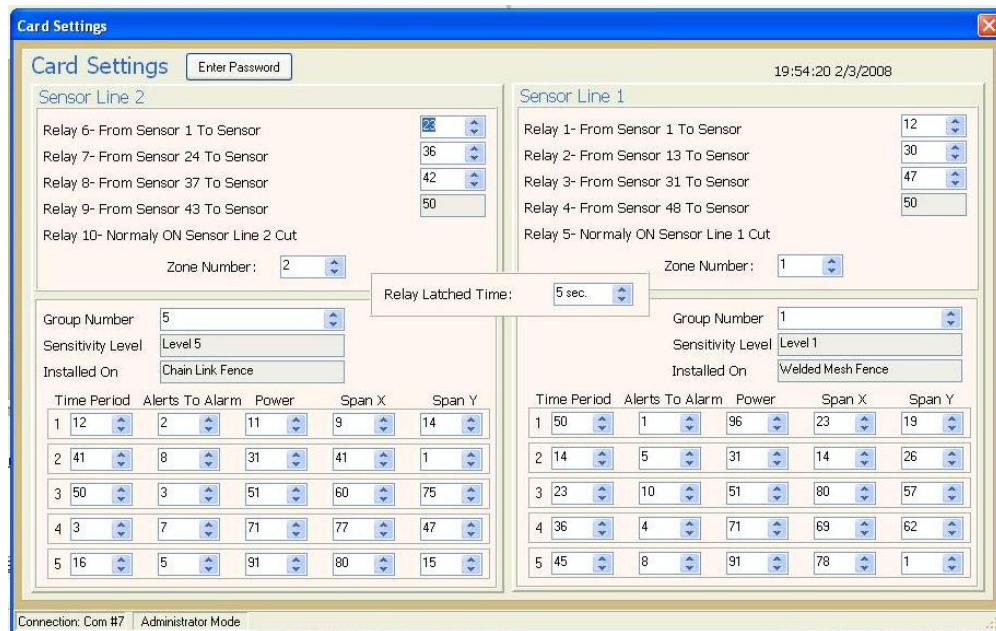

Figure 12: Card Settings
10.3. The Card Settings window shown in Figure 12 below is divided into 2 main sections - the TOP and BOTTOM section. The TOP section refers to all the features above and including the RELAY LATCHED TIME setting.
10.7. As an example, Figure 12 below has the following relay settings: